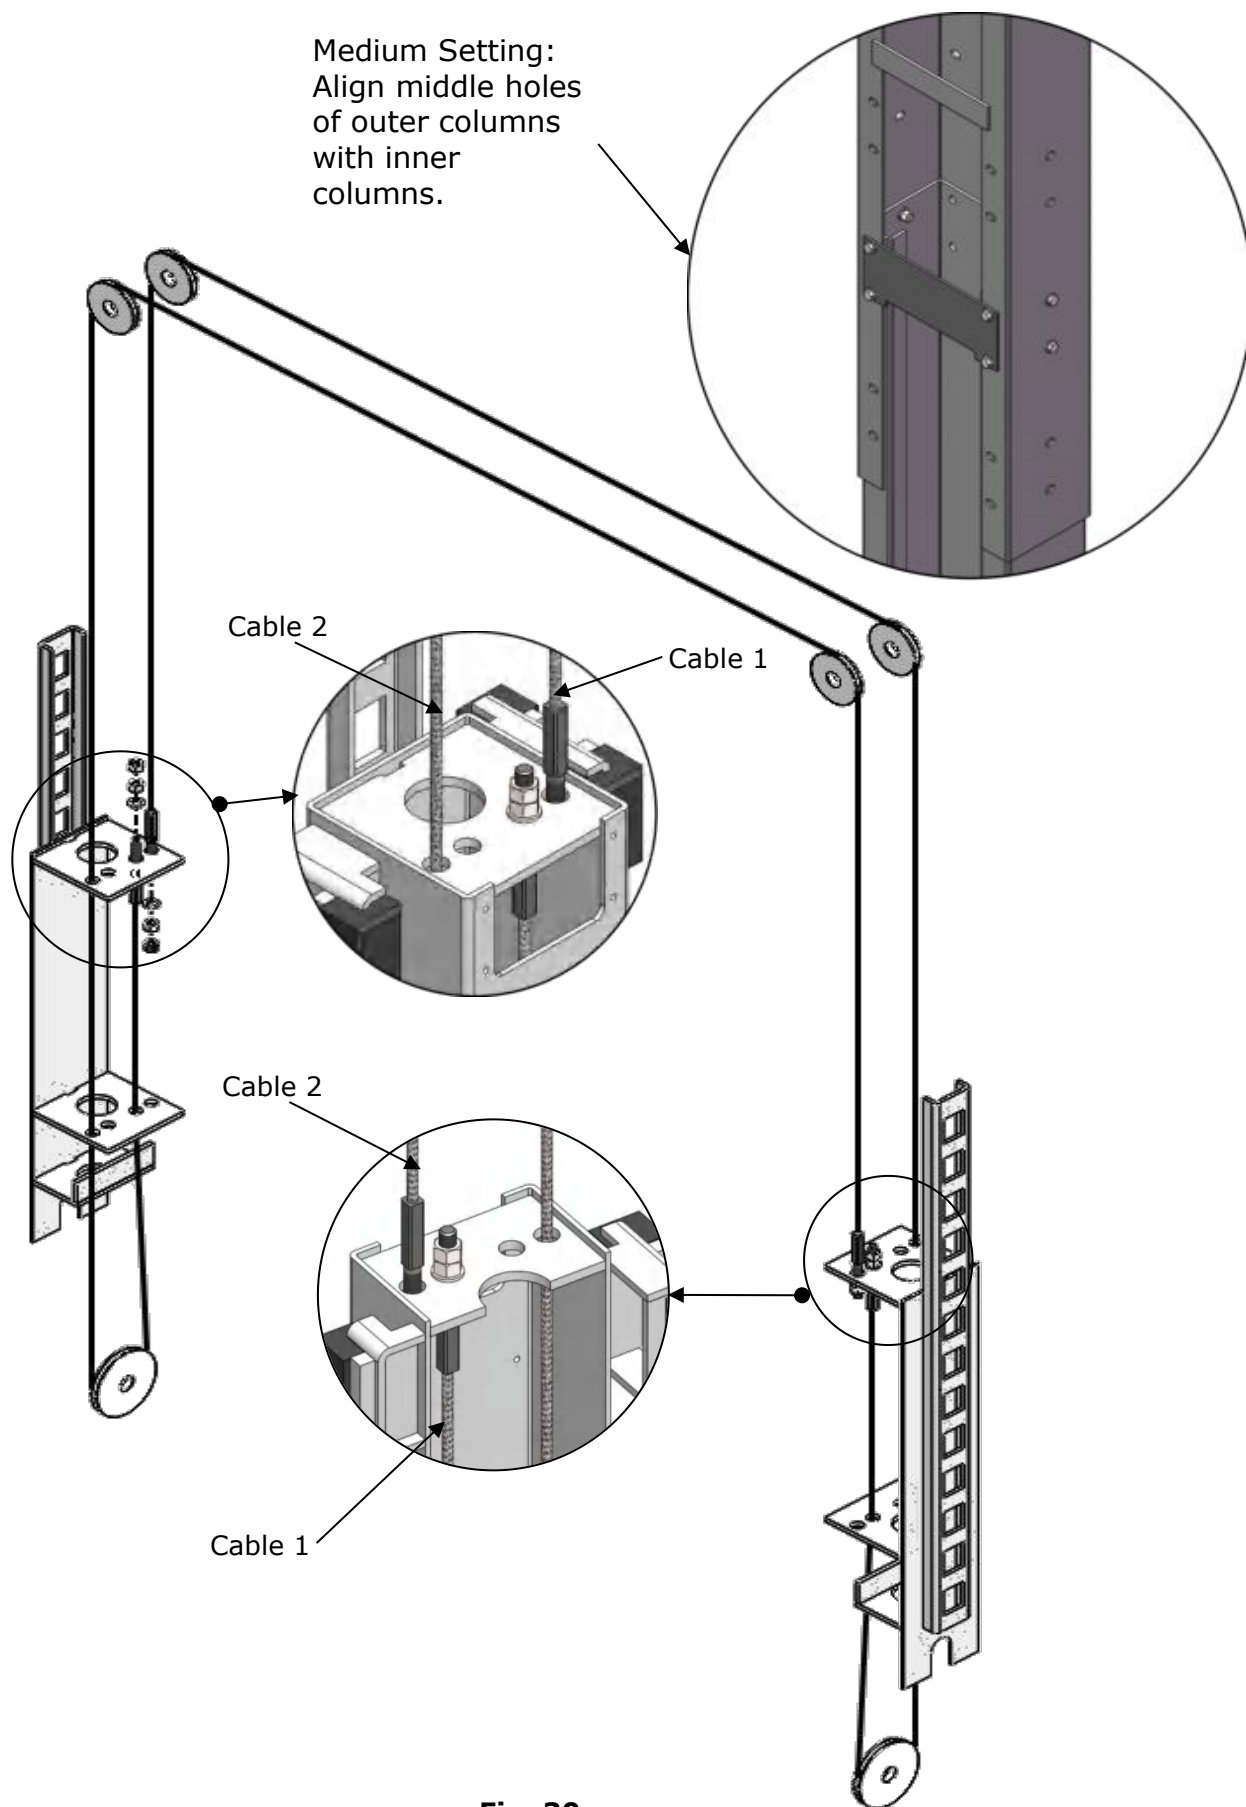

Fig. 30
2. Sync cable connection of medium setting installation. (See Fig.30)